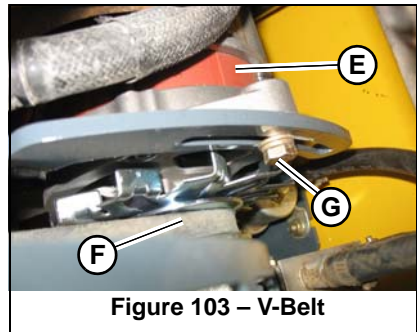

Figure 103 – V-Belt
3. Inspect V-belt (F, Figure 103) for damage. If damaged, have belts replaced by an authorized repair shop.
4. Press on V-belt (F) mid-way between pulleys to check deflection. The belt should not deflect more than 8 mm (5/16 in.).
5. If deflection is more than 8 mm (5/16 in.): Loosen adjustment bolt (G) and rotate alternator (E) outward until V-belt tension is correct. Tighten bolt (G) and re-check V-belt tension.